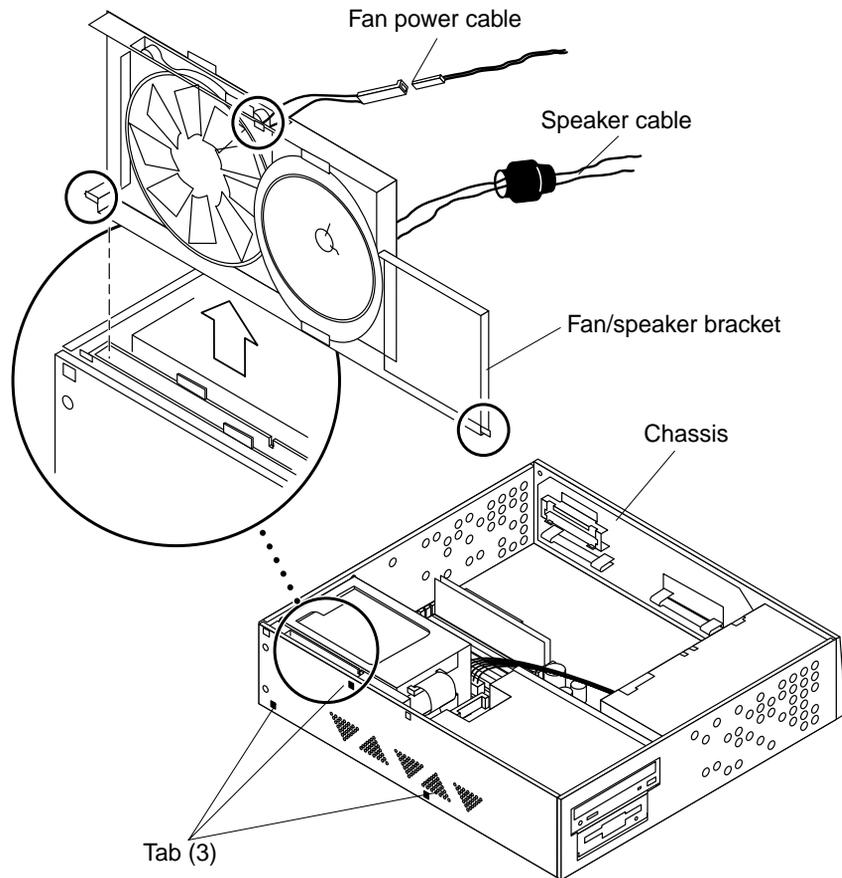

FIGURE 8-10 Replacing the Fan/Speaker Bracket
1. **Replace the fan/speaker bracket as follows (FIGURE 8-10):**